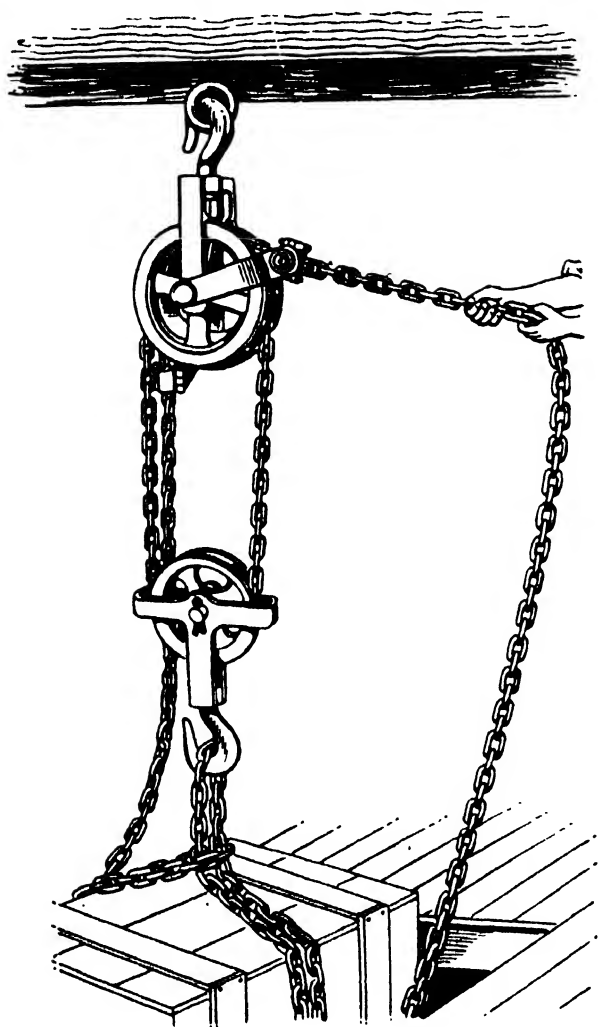

FIG. 15.—Chain-blocks,
**The Weston Blocks.**—There are several types of chain-blocks on the market; all are useful, although some are more so than others by virtue of their construction and ease of manipulation. The common Weston type known to most engineers are cheap to acquire, and are better than none at all, but little beyond that can be said in their favour for erection work. They are of the differential type, and are illustrated in Fig. 15.